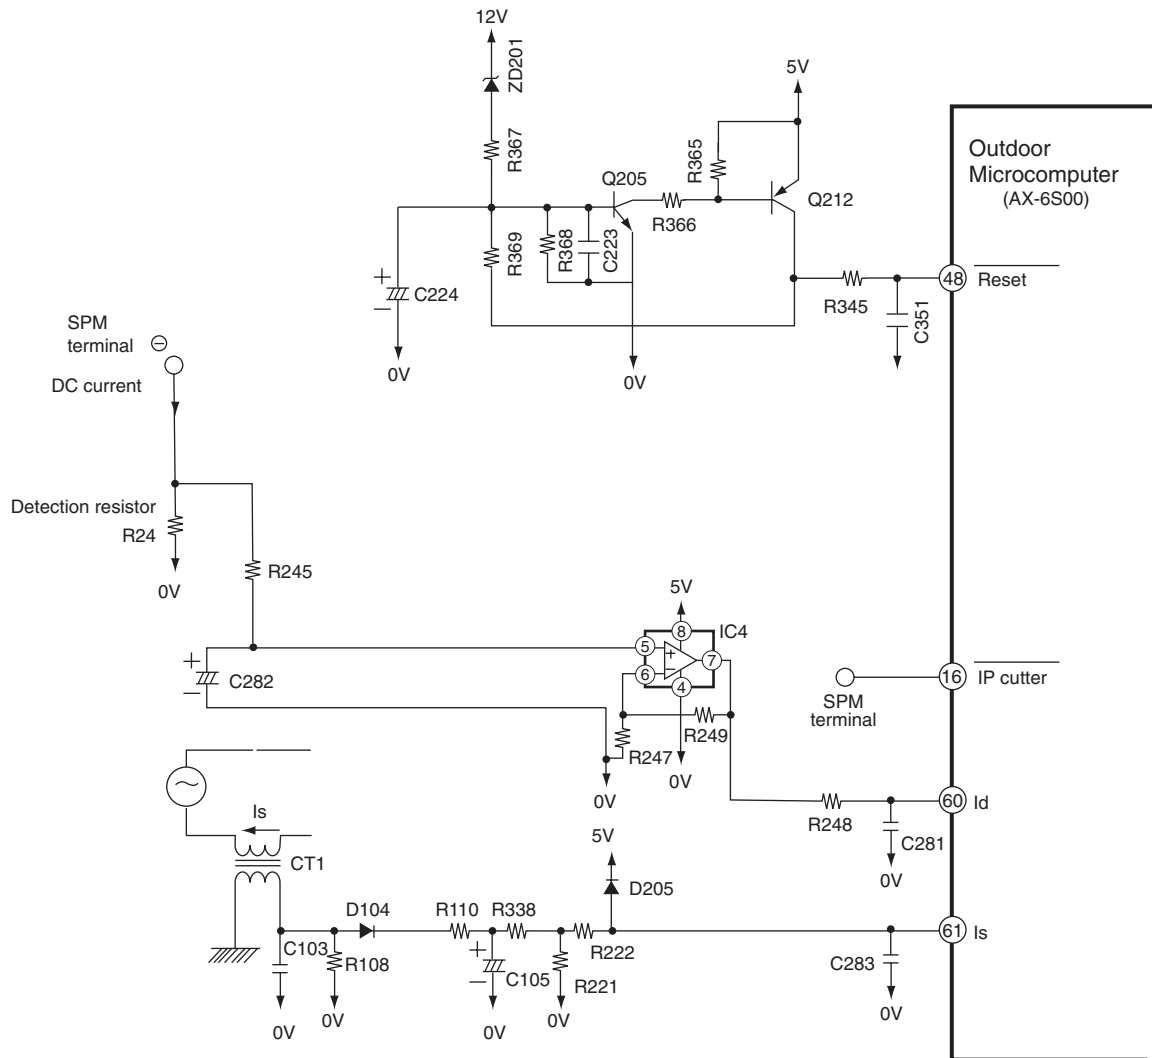

Fig. 7-1 Peripheral circuit of microcomputer (AX-6500)
- Fig. 7-1 shows the microcomputer and its peripheral circuits.